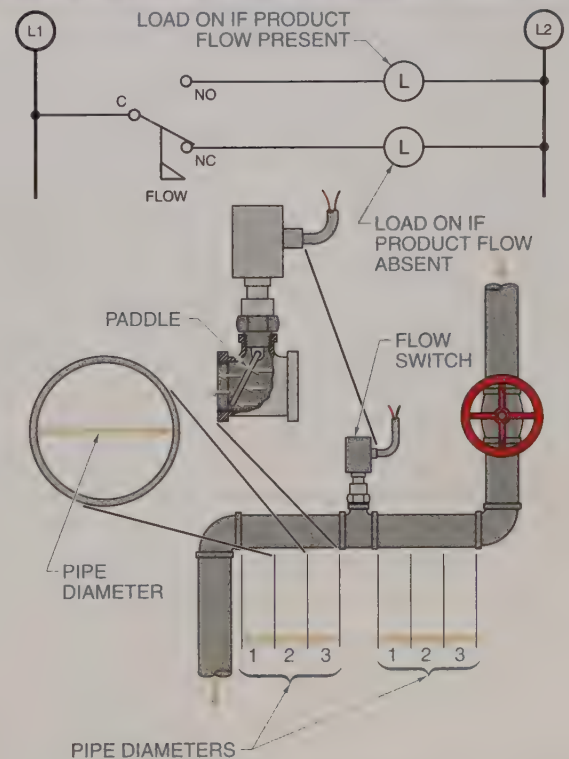

Figure 6-37. A distance of at least three pipe inside diameters (ID) should be allowed on each side of the flow switch when mounting a flow switch.
installed correctly to ensure it does not interfere with the movement of the product. Most flow switches are designed to operate in the horizontal position. There is a great deal of turbulence in flowing product at a distance of at least three pipe inside diameters (ID) on each side of the flow switch. See **Figure 6-37**. For example, the minimum horizontal distance of straight pipe required on each side of a flow switch is $4\frac{1}{2}"$ ($1\frac{1}{2}" \times 3 = 4\frac{1}{2}"$) when used in an application that moves a product through a $1\frac{1}{2}"$ diameter pipe.